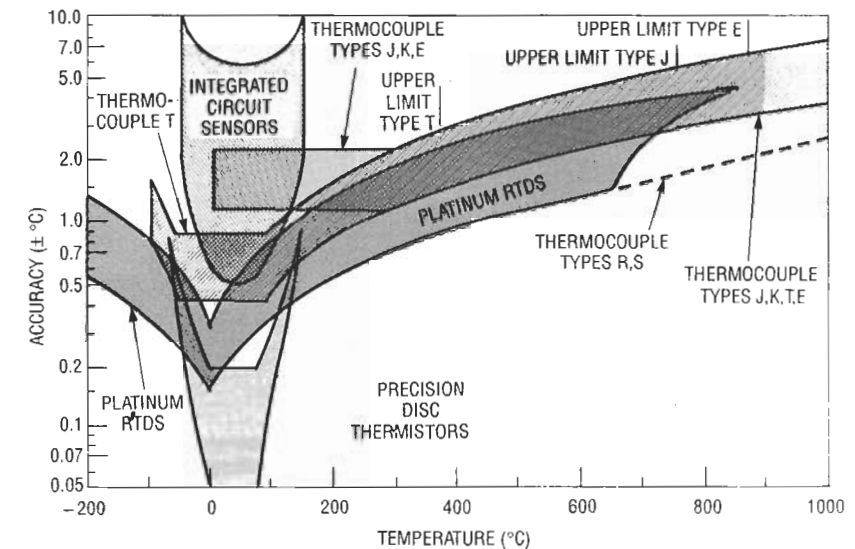

FIG. 4—THE "BEST" TEMPERATURE SENSOR depends on the temperature range and accuracy required.
For the balance of this article we'll examine and compare commercial temperature sensors: thermocouples, resistance thermometers, thermistors, and silicon (IC) sensors. Let's begin with a quick survey; Table 2 compares their characteristics, while Fig. 4 shows operating ranges and accuracies.